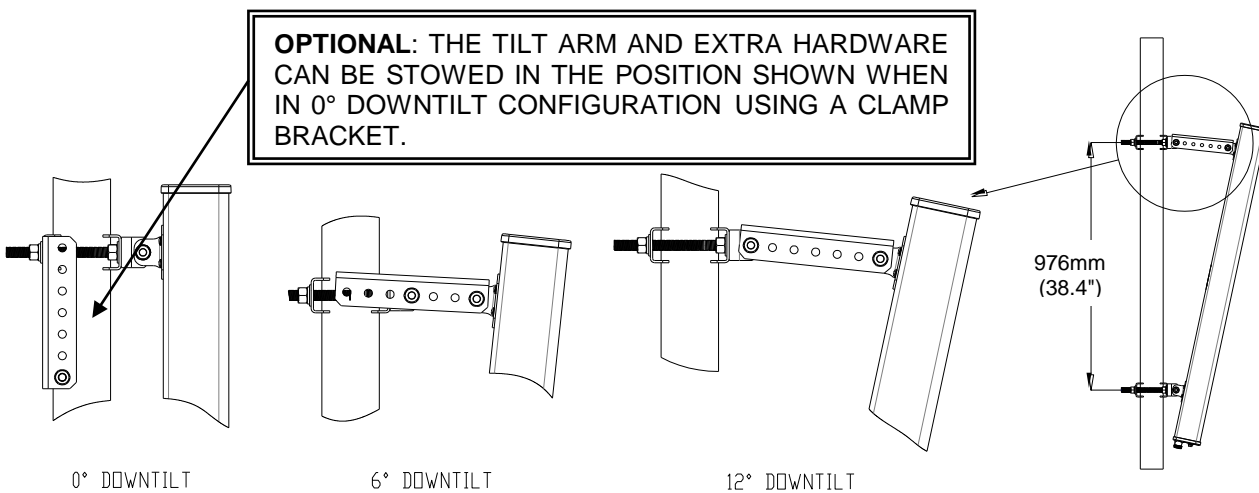

Figure 7: Upper Bracket Placement for Various Downtilts
- 2°- 12° downtilt can be achieved by aligning the corresponding hole in the tilt arm to the pivot bracket which mates against the mounting pole, as shown in Figure 7. The first vacant hole is for 2° downtilt, with each consecutive hole resulting in an increased inclination of 2°.
- For 0° downtilt the tilt arm may be stowed as show in Figure 7.